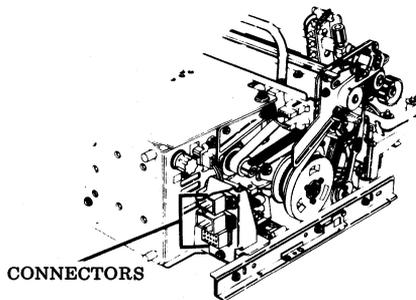

Fig. 24—Connectors on Tractor Feed Printer
6.06 Slide the printer in place. Make sure two latches on either side are fully engaged; also make sure three connectors at the rear of the printer are fully seated (Fig. 24).